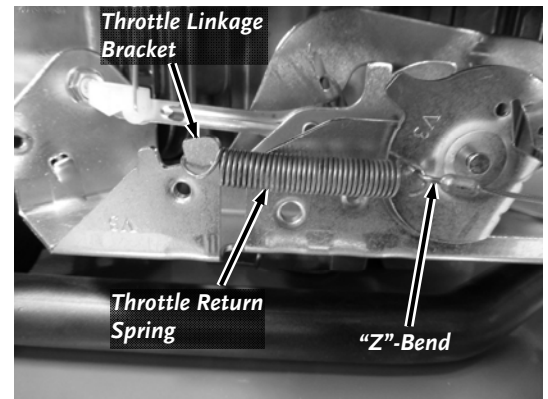

Figure 13a
7. Install one end of the Throttle Return Spring to the Throttle Linkage Bracket and the other end to the "Z" Bend at the end of the Throttle Cable (**Figure 13a**).